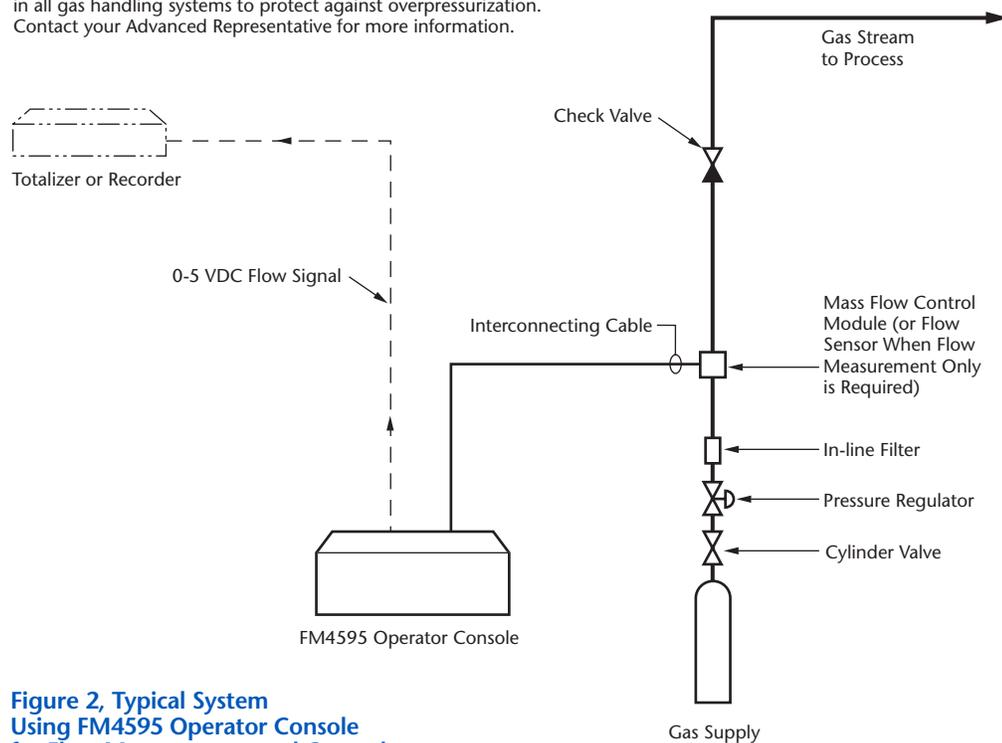

Figure 2, Typical System Using FM4595 Operator Console for Flow Measurement and Control
2. Model FM4595 can be used for flow measurement or for flow measurement and flow control. As shown in Figure 2, it will operate with 1 Mass Flow Sensor or 1 Mass Flow Control Module.